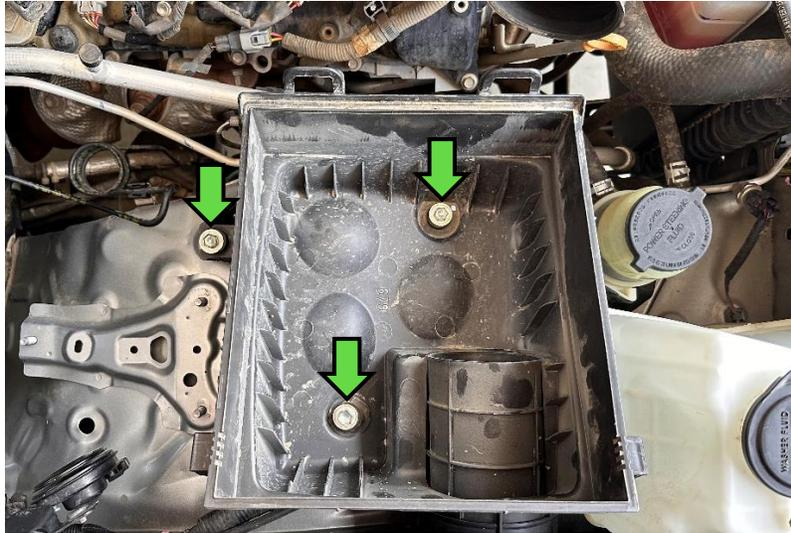

Figure 1
- e. Remove (3) bolts [**12mm**] shown in *Figure 1*.